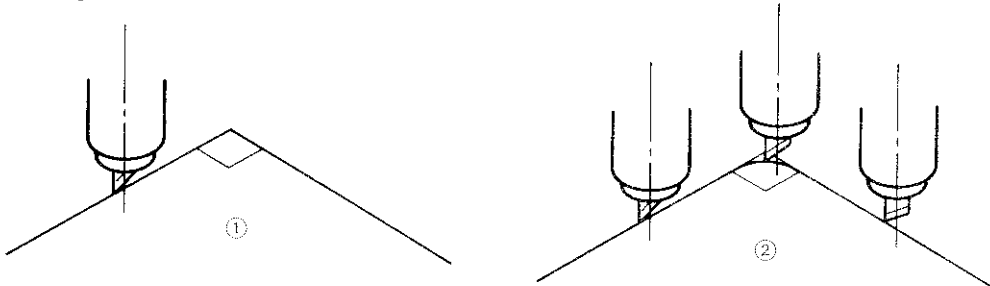

Fig. 4-1
If you move the cutter as illustrated in Fig. 4-1, the corner is rounded as illustrated in ② because the cutter is rotated. [CUTTER] offsets this tool movement. When you select any pen from [PEN], no tool offset is performed.